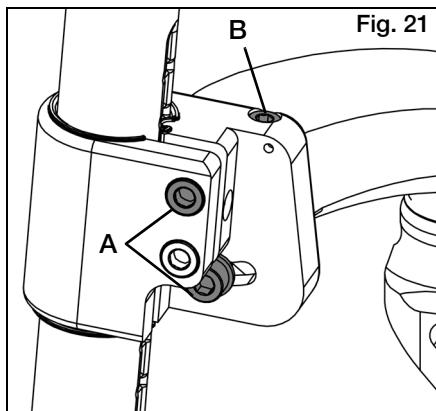

Fig. 21
2. Loosen the two 6mm Allen screws (Fig. 21:A) on top and bottom of caster mount. This will allow the caster housing to pivot.
4. To adjust caster angle turn the 3mm adjuster screw (Fig. 21:B). This will adjust caster angle forward or rearward. This will align the caster stem rotational axis perpendicular to the floor surface.
5. When the alignment is correct, retighten the two 6mm retaining screws to 80 in./lbs (9.04 N\*m) (Fig. 21:A).